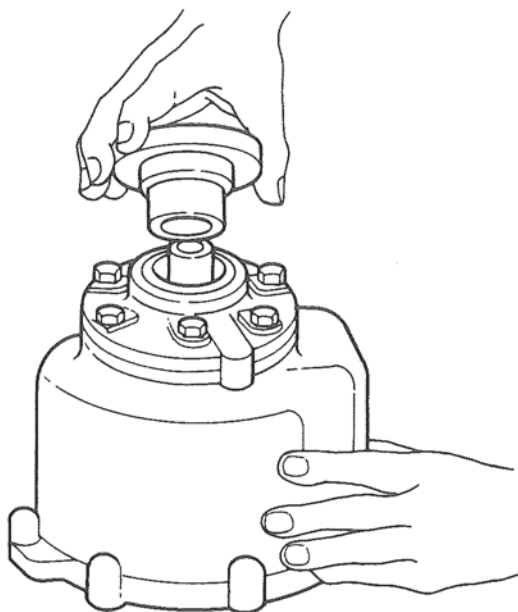

Figure 26. Assembling Coupling.
5. Inspect the coupling sealing diameter to make sure there are no burrs or sharp edges which might damage the seal or prevent proper sealing, replace if damaged. Figure 26. Lubricate the sealing diameter and the internal splines with automatic transmission fluid. Align the splines of the coupling to those of the main shaft and press the coupling down until contact with the bearing inner race is made.